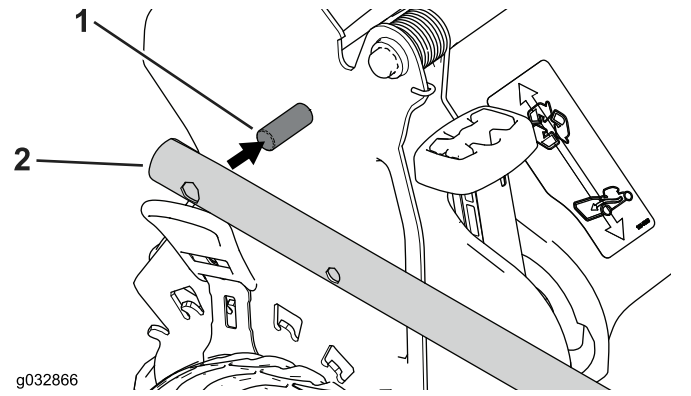

Figure 5
1. Install the handle ends onto the mower housing so that the pin attached to each handle bracket is in the lower hole of its related handle end (Figure 5).